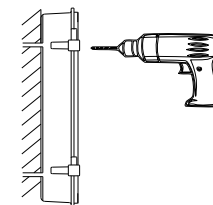

Figure 7
2. Put the fixture on the wall, drill 3 holes to get through the wall. (Figure 7)